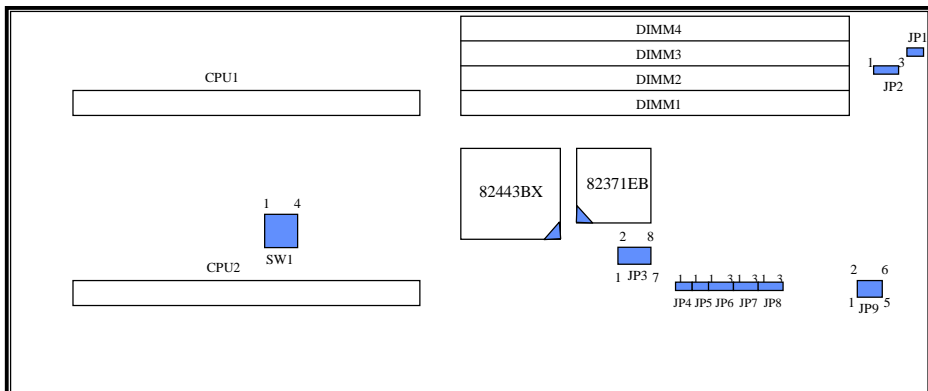

Figure 2-1 ACTI-688 Jumper Locations
In general, jumpers on the single board computer are used to select options for certain features. Some of the jumpers are designed to be user-configurable, allowing for system enhancement. The others are for testing purpose only and should not be altered. To select any option, cover the jumper cap over (Short) or remove (NC) it from the jumper pins according to the following instructions. Here NC stands for “Not Connected”. (Please refer to Figure 2-1 for jumper positions)